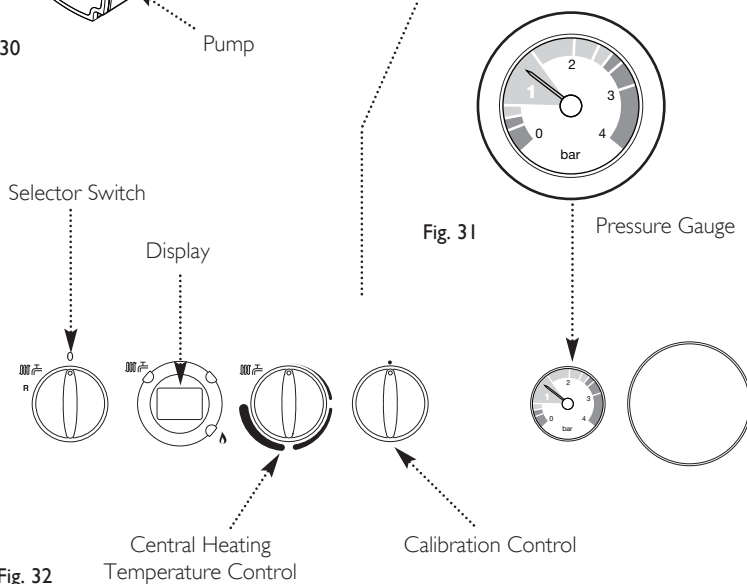

Fig. 31
6. Pressurise the system to 1.5 bar (Fig. 31) then close and disconnect the filling loop.